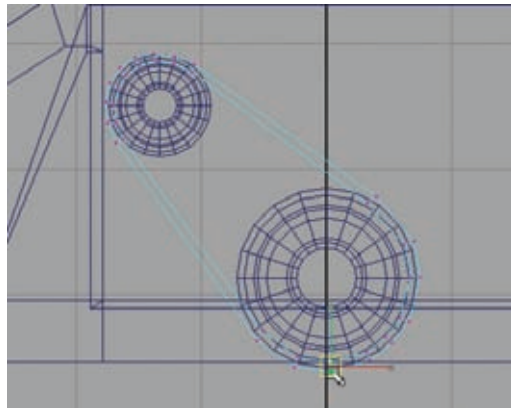

Figure 4.48
10. In the Front view, reposition the belt geometry to wrap around the two gear cylinders like in Figure 4.48.